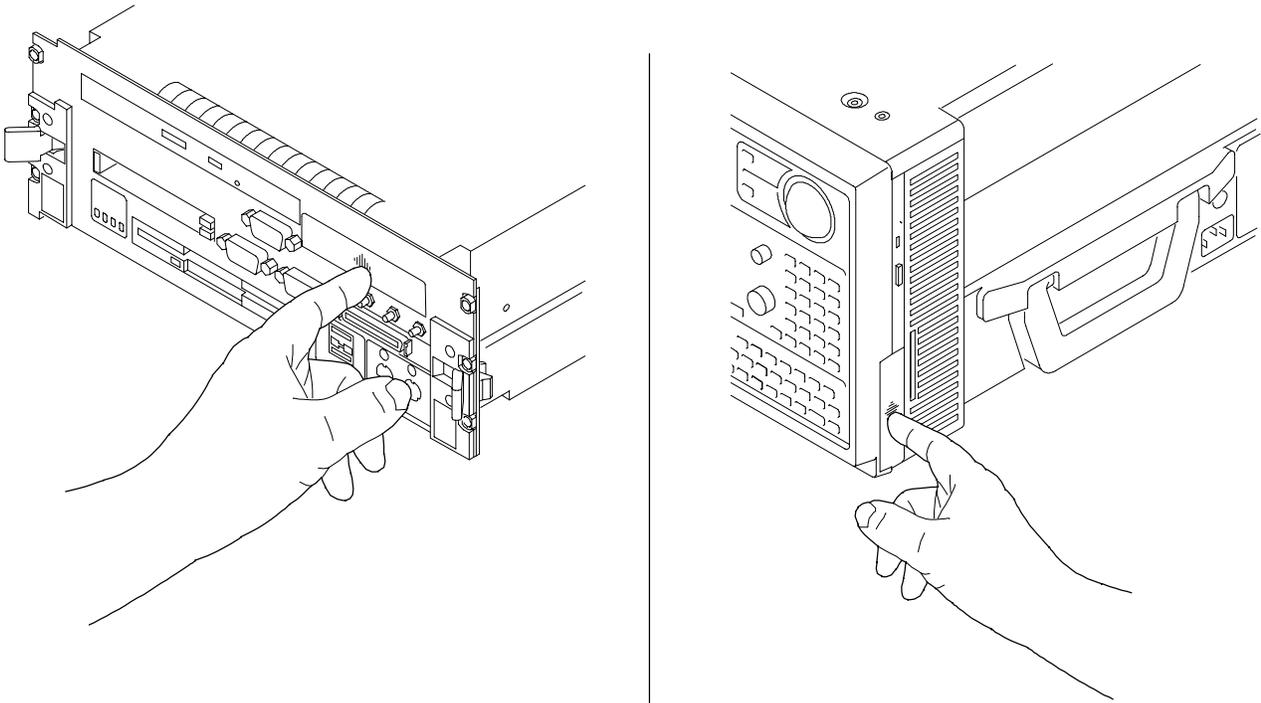

Figure 16: Accessing the TLA700 replaceable hard disk drive
2. Remove the replaceable hard disk drive cartridge by depressing it to release the latch; see Figure 16 on page 23.